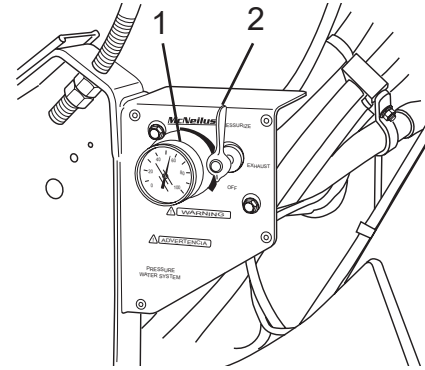

Figure 103
2. Turn air pressure control valve to the PRESSURIZE position (Figure 103, Item 1). The water tank will be pressurized from the chassis air system. The air gauge (Figure 103, Item 2) will indicate the pressure in the water tank. The pressure must not exceed 55 psi (380 kPa).